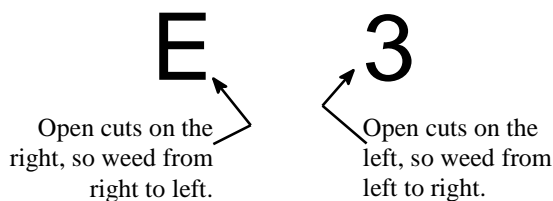

Figure 6. Determine Where to Start Weeding
- Start weeding from the side where the graphic elements have most open cuts. See Figure 6.